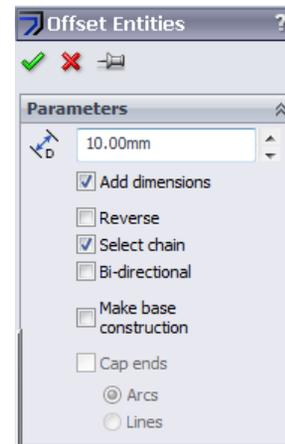

Figure 3-27 The **Offset Entities PropertyManager**
1. Choose the **Offset Entities** tool from the **Sketch CommandManager**; the **Offset Entities PropertyManager** is displayed, as shown in Figure 3-27. Also, you are prompted to select faces, edges, or curves to offset.